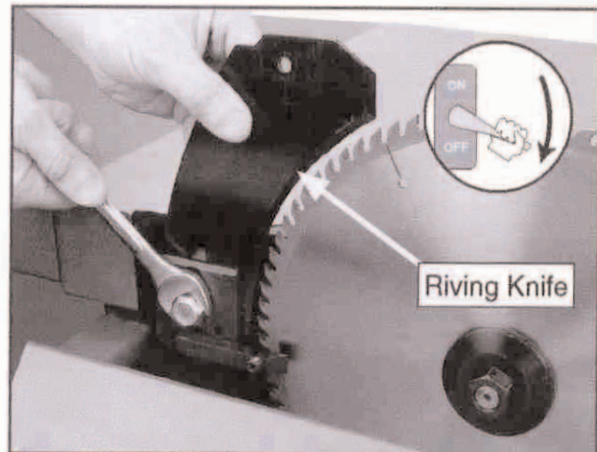

**Figure 32.** Rip fence height adjustment.
- If the rip fence rests on the table, loosen the hex nut shown in **Figure 32** and rotate the hex bolt to raise the roller. Tighten the hex nut to lock the height.